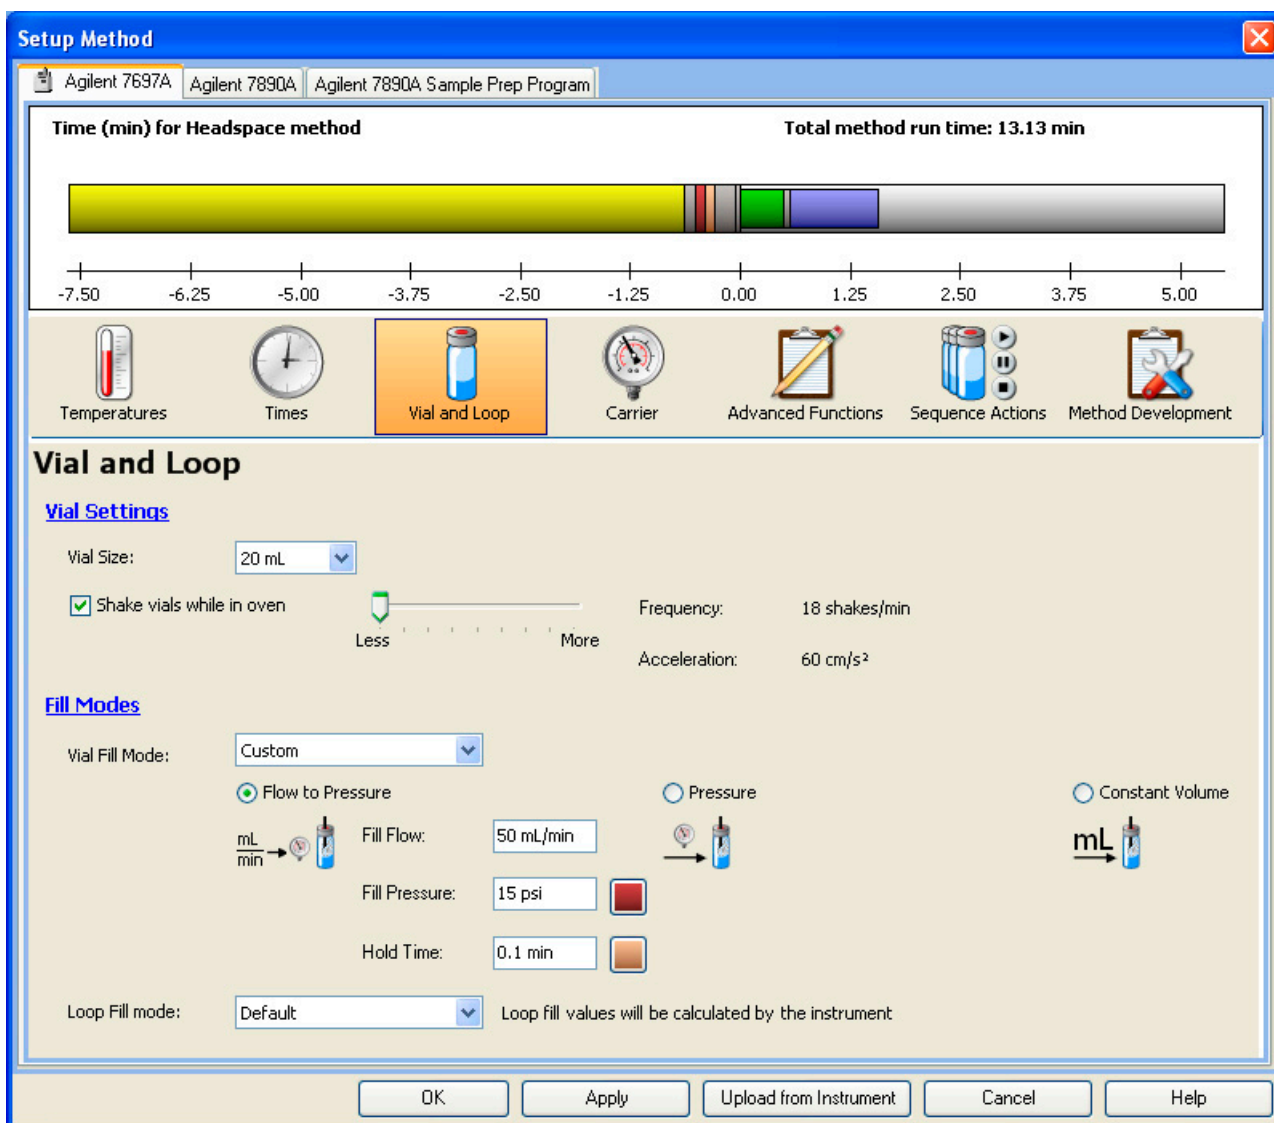

**Figure 16** Setting the vial and loop parameters
- 5 Select the **Vial and Loop** icon and set the parameters shown in Figure 16.